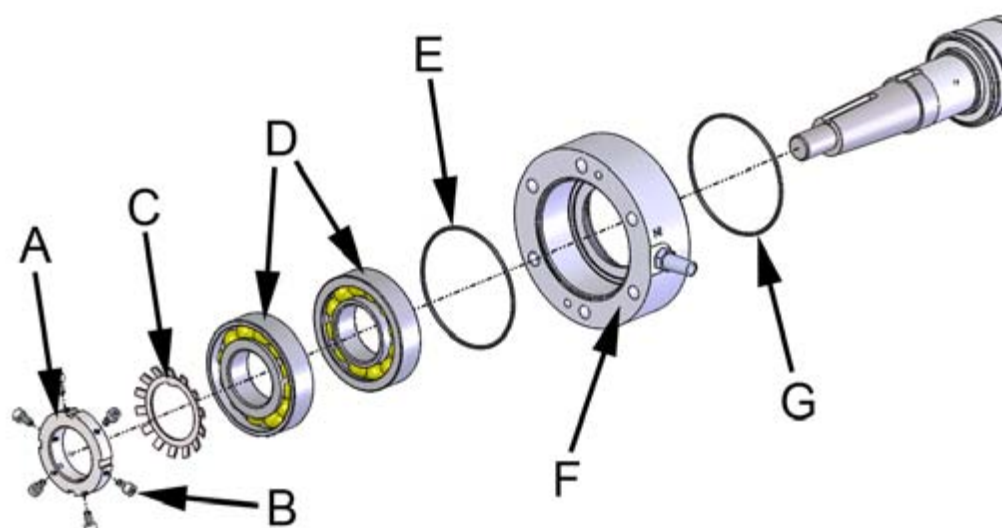

Figure 16. Pushing the bearings onto the shaft
4. Push the bearing pair (figure 16, point D) into the bearing housing (figure 16, point F) and place them on to the shaft together.
5. Position the lock washer on to the shaft and screw the shaft nut in place (figure 16, points A and C).
6. Tighten the shaft nut by first tightening it against the bearings by hand and then using a shaft nut wrench to tighten it enough to make one of the teeth of the lock washer connect with the groove in the nut (figure 16, point A).
7. Turn the tooth of the lock washer down into the shaft nut groove and then tighten the shaft nut screws (6 pcs, figure 16, point B).
8. Set the o-ring between the bearing housing and the jet's frame (figure 16, point G) and the o-ring between the bearing housing and the bearing housing cover (figure 16, point E) into place.